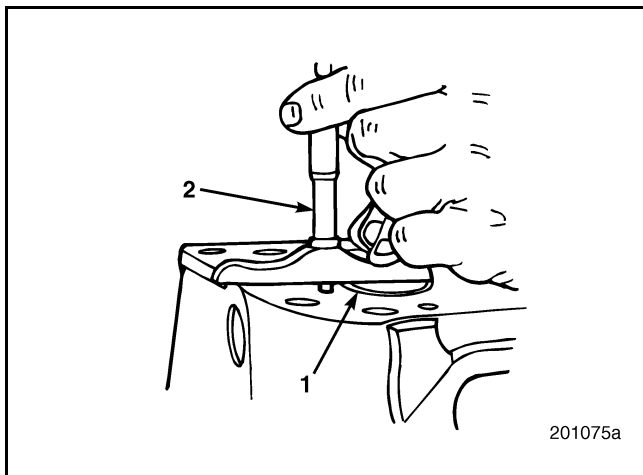
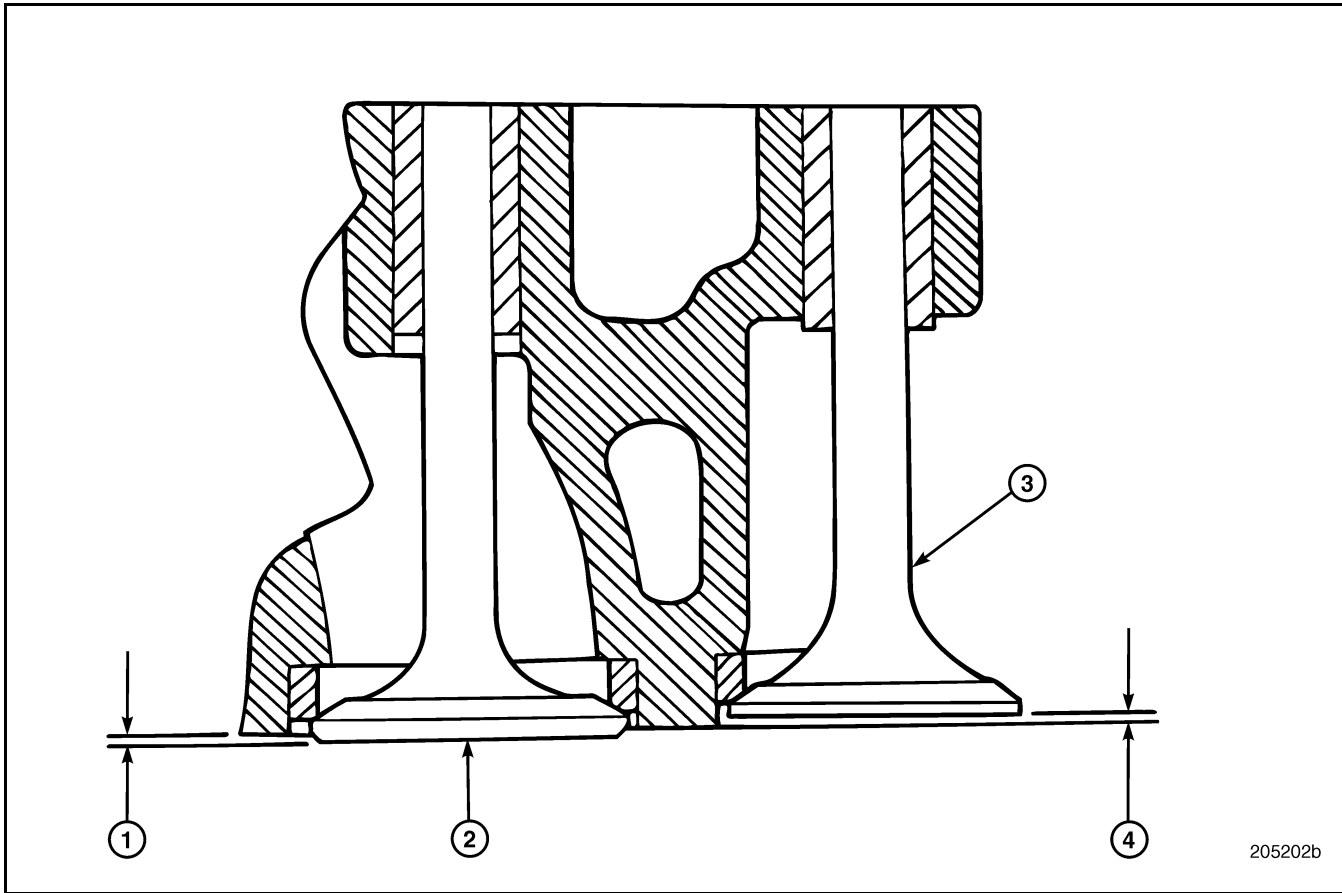

Figure 211 — Checking Valve Assembly Height
Figure 212 — Inlet/Exhaust Valve Head Depth Measurement
7. After the valves are installed, check each inlet valve for head height above the cylinder deck. The protrusion dimension for inlet valves should be $0.0425 +0.009/-0.007$ inch ($1.0795 +0.229/-0.178$ mm). Refer to Figure 211 and Figure 212.